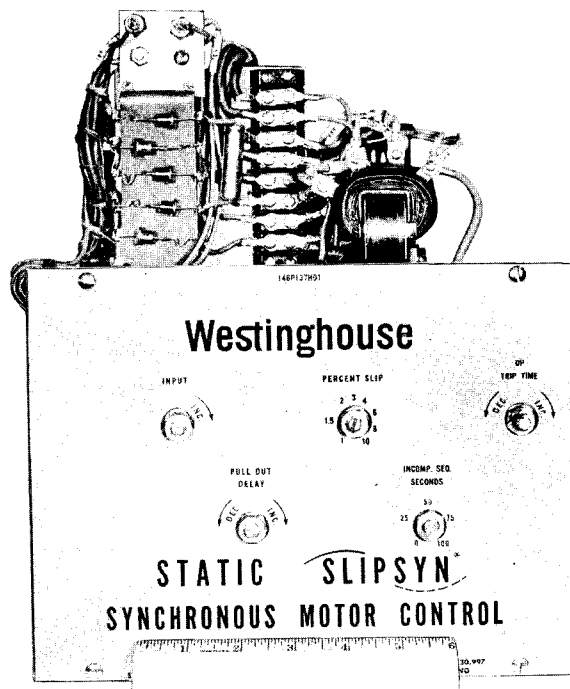

Fig. 1 SLIPSYN® Control Panel
Remove the cover from the static SLIPSYN® shown in Fig. 1. Pushing the start button will apply the AC power and the motor will accelerate. ON THE FIRST START, and while the motor is accelerating, measure the input voltage between terminals R2 (106) and common with an AC voltmeter. This should be $100\text{ V} \pm 10\%$ to provide accurate damper winding protection. Reset this tap if necessary.